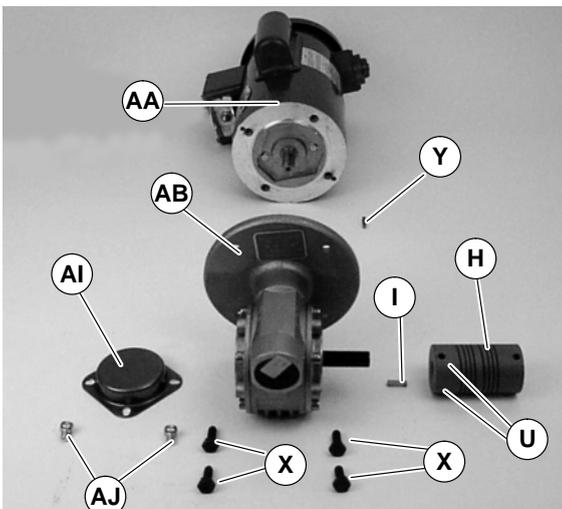

Figure 26
- Remove four screws (X of Figure 26). Detach motor (AA) from gear reducer (AB). Retain shaft key (Y).
- With key (Y of Figure 26) in keyway, slide motor (AA) and gear reducer (AB) together. Install screws (X) and tighten.
- Attach coupling (H of Figure 26) to gear reducer shaft. Tighten two set screws (U) to 4.7 Nm.